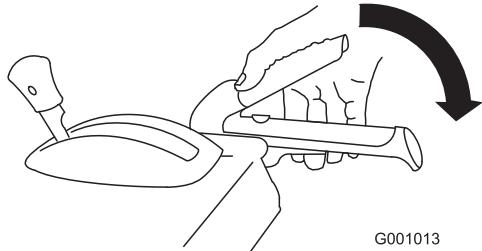

Figure 31
- To engage the auger/ impeller drive, squeeze the right hand (auger/ impeller) lever to the handgrip (Figure 31).